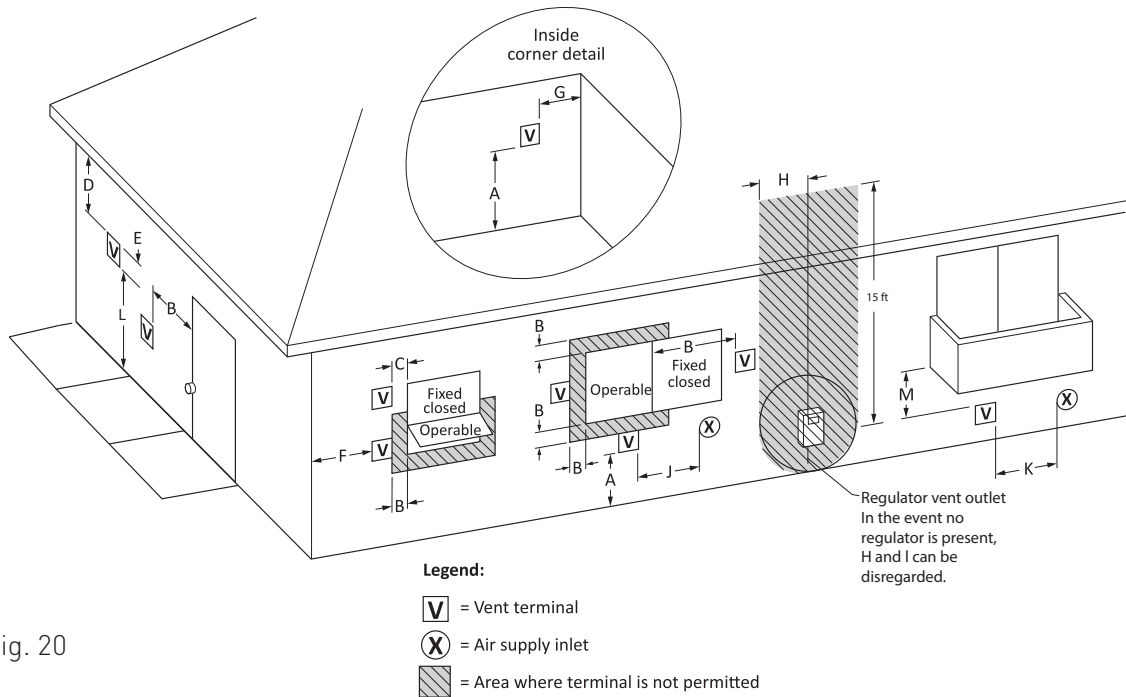

fig. 20
- › In case of horizontal polypropylene co-axial system installation, properly orientate the horizontal co-axial terminal in relation to the slopes inside the exhaust pipe and to protect the combustion air pipe from adverse weather conditions (Refer to section 1.1.18, sub-section **III (a)** and figure 20).